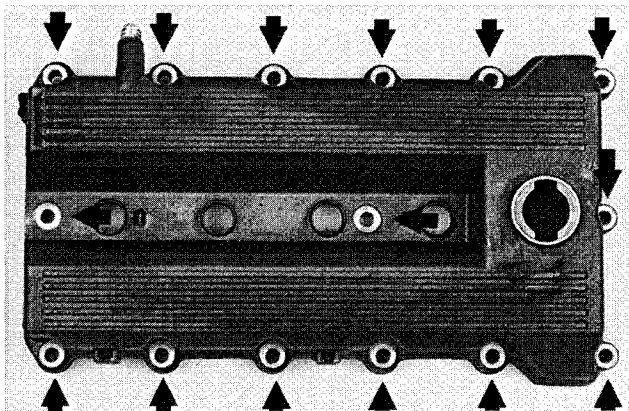

Fig. 5. Cylinder head cover mounting points (arrows).
13. Unscrew and remove cylinder head cover cap screws and remove cover. See Fig. 5.